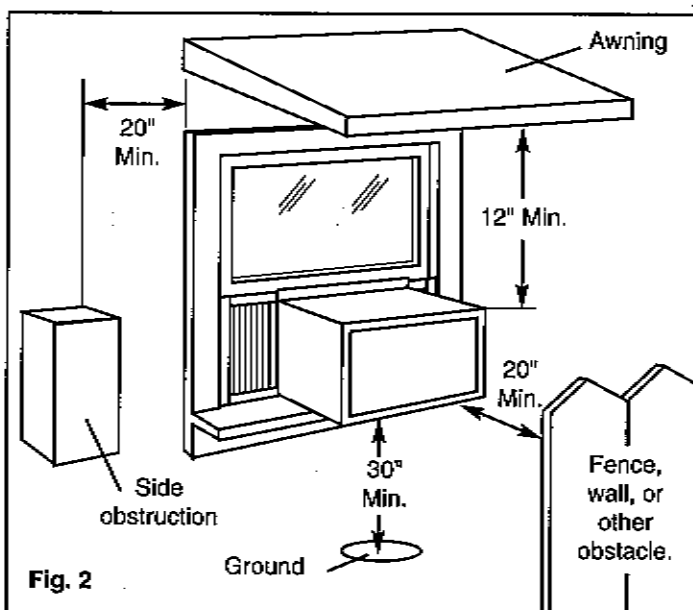

Fig. 2
- Provide sufficient clearance around the cabinet to allow for ample air circulation through the unit. See Fig. 2. The rear of the unit should be outdoors and not in a garage nor inside a building. Keep unit as far away as possible from obstacles/obstructions and at least 30" above the floor or ground. Curtains and other objects within a room should be prevented from blocking the air flow.